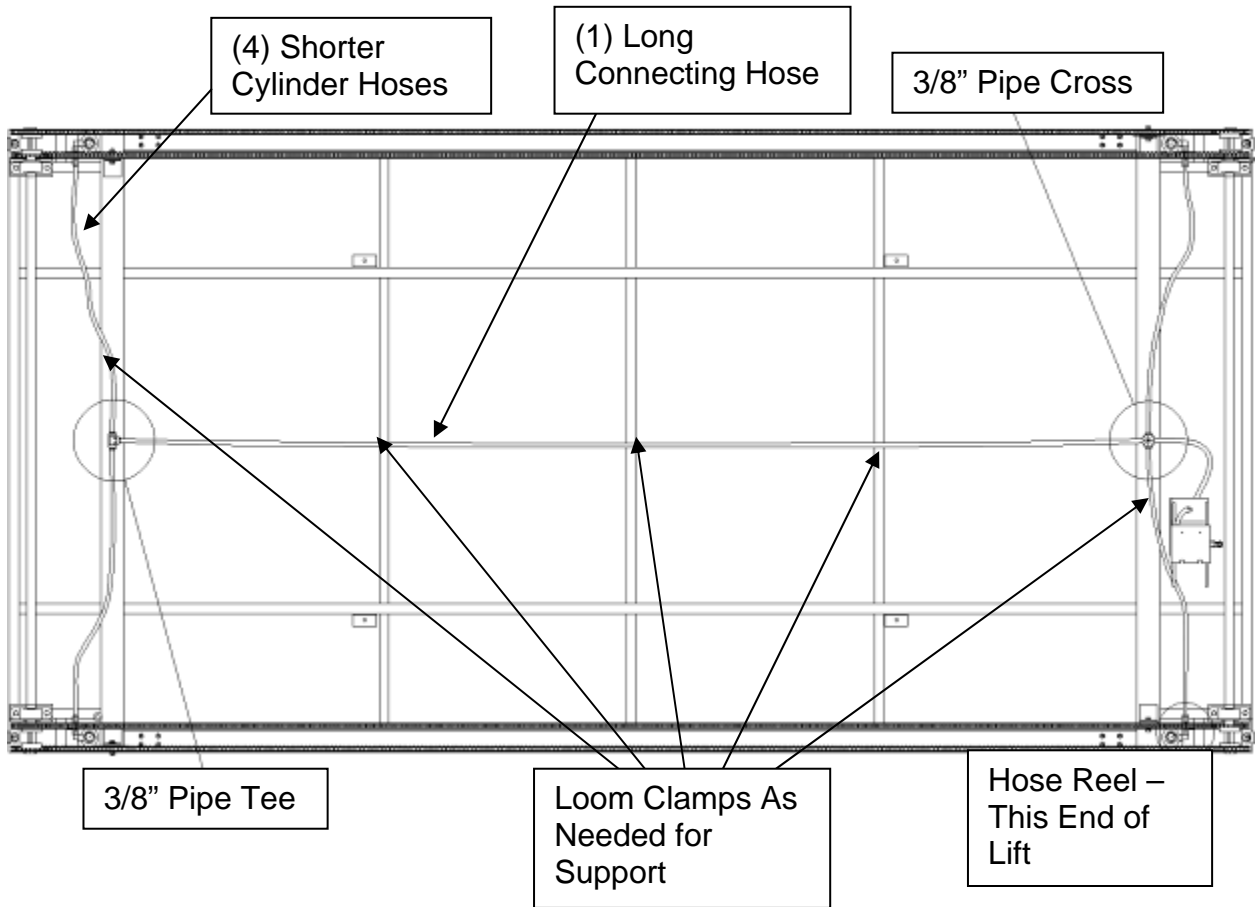

Figure 30 Mounting of Hose Beneath Carriage
3. Install the one (1) remaining long 3/8" hose and the four (4) shorter 3/8" cylinder hoses beneath the carriage as shown in **Figure 30** using the fittings and hose clamps provided, being sure to place the pipe cross fitting on the same end of the lift as the hose reel.